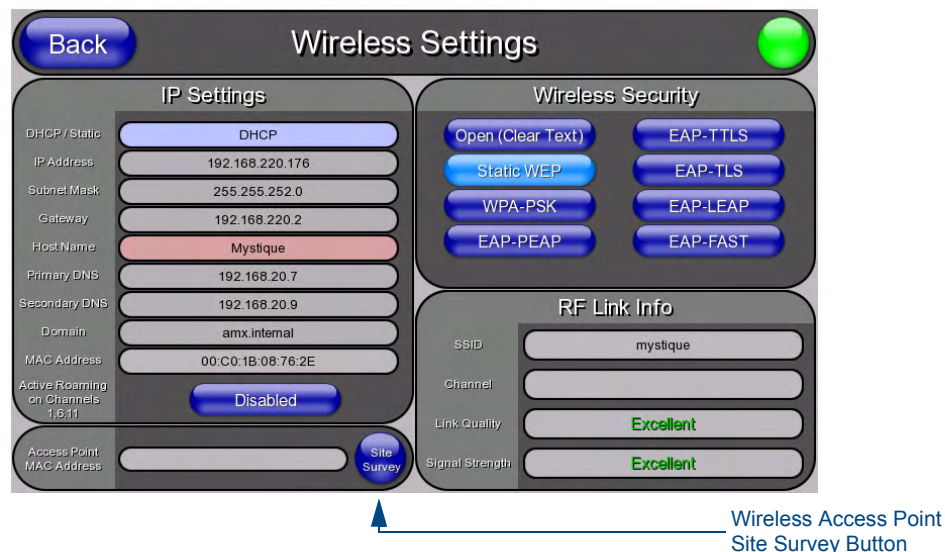

FIG. 19 Wireless Settings page (IP Settings section)
1. Select **Wireless Settings**. Wireless communication is set within the *IP Settings* section of this page (FIG. 19).
1. From the *Protected Setup* page, press the **Wireless Settings** button to open the *Wireless Settings* page. Wireless communication is set within the IP Settings section of this page (FIG. 19).